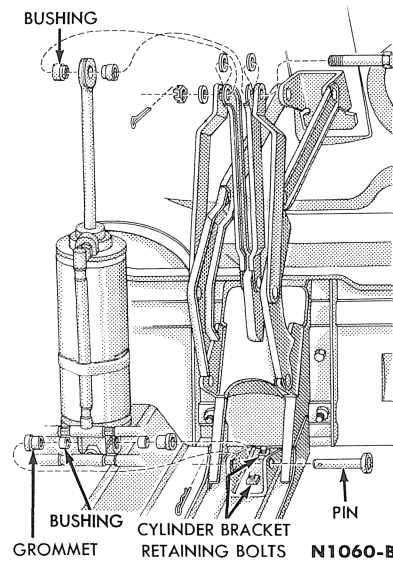

FIG. 3-20—Deck Lift Cylinder
2. From underneath the lower back panel, remove the deck cylinder bracket retaining bolts from each cylinder (Fig. 3-20).